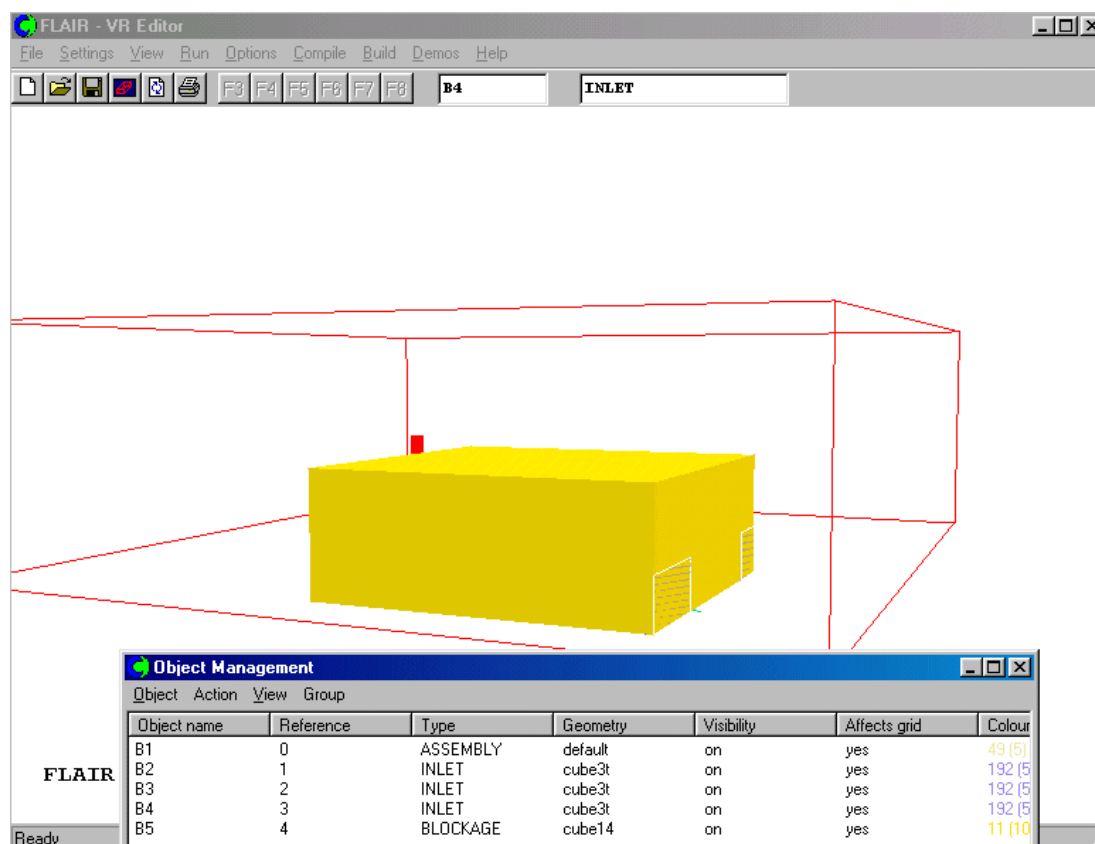

Figure 3.21 The rackunit assembly
- **RackUnit** is an assembly of four components, a blockage and three inlets as shown in figure 3.21.